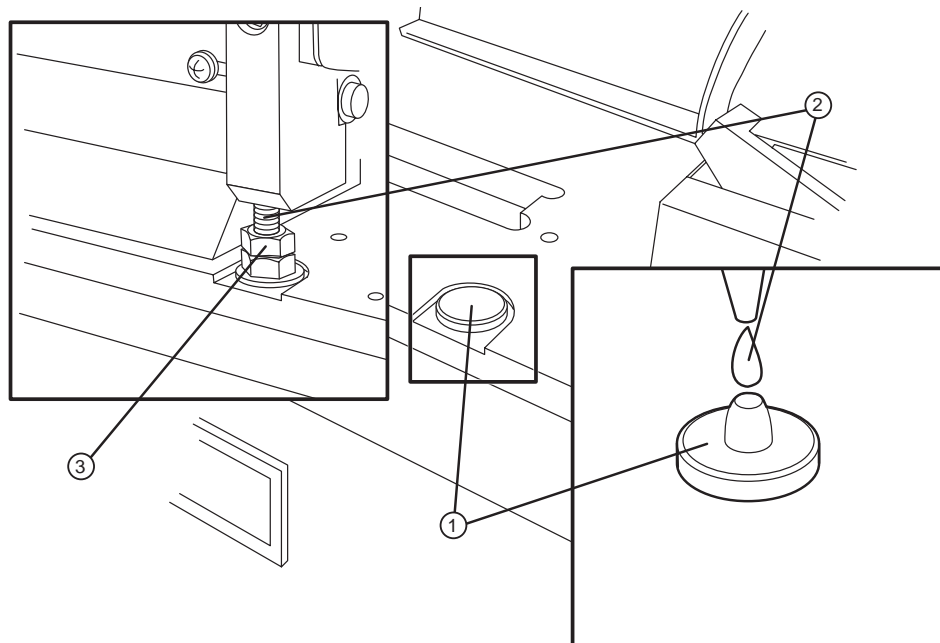

Figure 1-18 Aligning the solid stops.
NOTE: If the take-up platform in your system does not have the solid stop pad areas (see Figure 1-18), then you must install a newer platform.
1. Put Loctite on the knurl of the solid stop pad. Refer to Figure 1-18.
2. Put the solid stop pad in the hole in the imagesetter take-up platform. Refer to Figure 1-18.
4. Screw the solid stop down against the stop pad of the take-up platform. Refer to Figure 1-18.
5. Using a 9/16" wrench, screw the top adjustment nut to the top and tighten it. Refer to Figure 1-18.